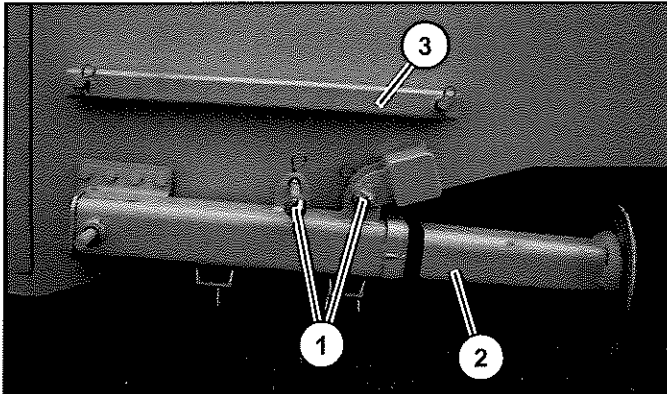

Figure 102
5. Remove pins (Item 1) and swing the jack legs (Item 2) into the transport position (**Figure 102**).
6. Remove the brace arm (Item 3) (**Figure 102**) from the stored position and repin in the transport position.